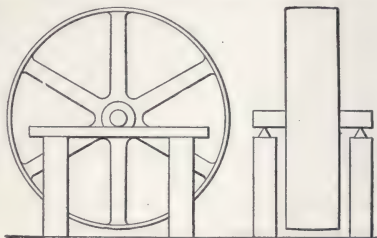

FIG. 15.
**12. Balancing Pulleys.**—All pulleys that rotate at high speeds should be balanced. If they are not, the centrifugal force that is generated by the rotation of the pulley, on account of the center of gravity being outside the axis of rotation, will cause vibration; hence, pulleys are usually balanced in the manner shown in Fig. 15.